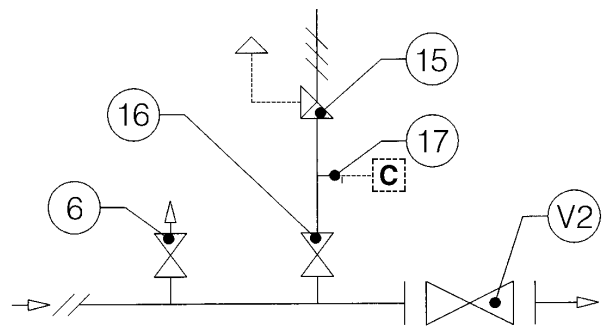

Fig. 6
3.1.2 INSTALLATION MIT ABSPERRORGAN (ABB. 6)
3.1.2 INSTALLATION AVEC VANNE DE SECTIONNEMENT (FIG. 6)